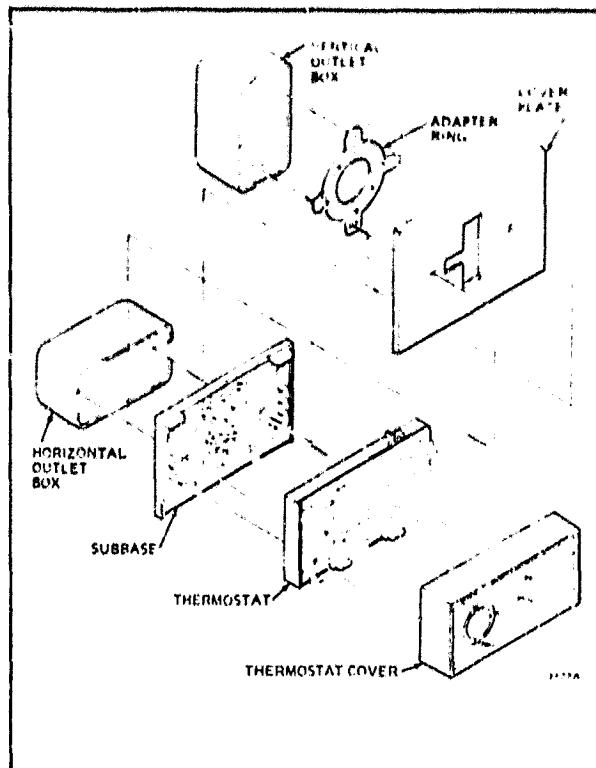

FIG. 3-INSTALLATION OF Q672 SUBBASE ON OUTLET BOX.
3. If mounting the subbase on a vertical outlet box (Fig. 3), install the adapter ring with the 2 screws provided.